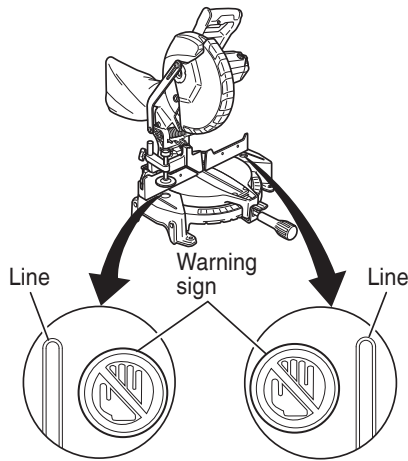

Fig. 13
- * Never place your limbs inside of the line next to warning sign while the tool is being operated. This may cause hazardous conditions (see Fig. 13).